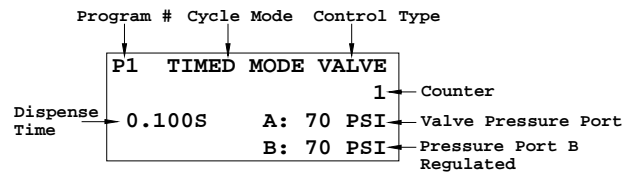

Figure 3.0
4. Press the Mode (2) and Set button (3) simultaneously until “VALVE” appears on the top right hand corner of the Display as shown in Figure 3.0